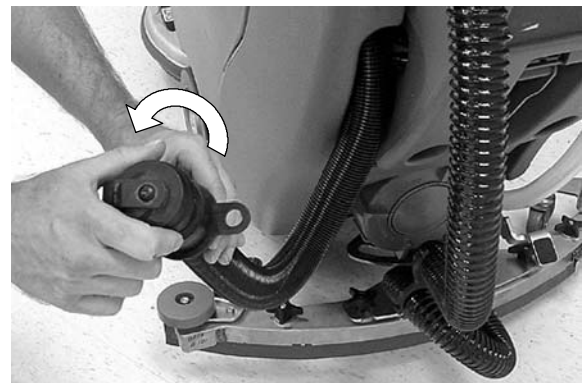

FIG. 26
1. Remove the recovery tank drain hose cap by turning it counter-clockwise and drain the tank (Figure 26).